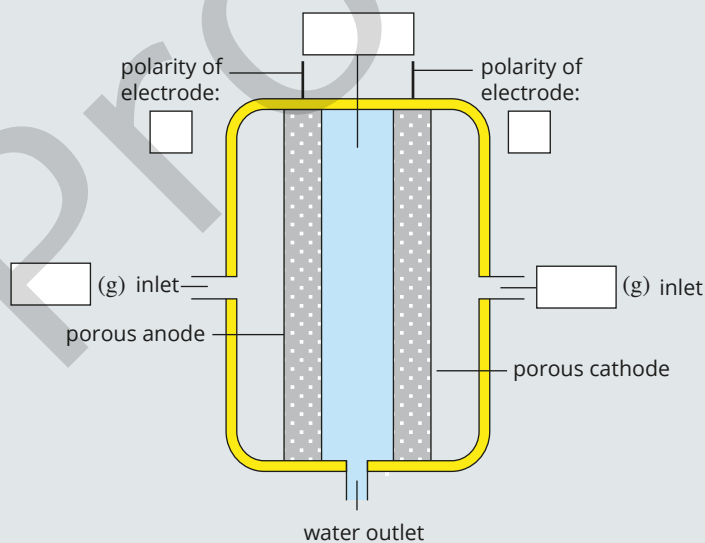

FIGURE 9.6.3 Hydrogen–oxygen fuel cell
- 18** Label the diagram of a hydrogen–oxygen fuel cell shown in Figure 9.6.3.